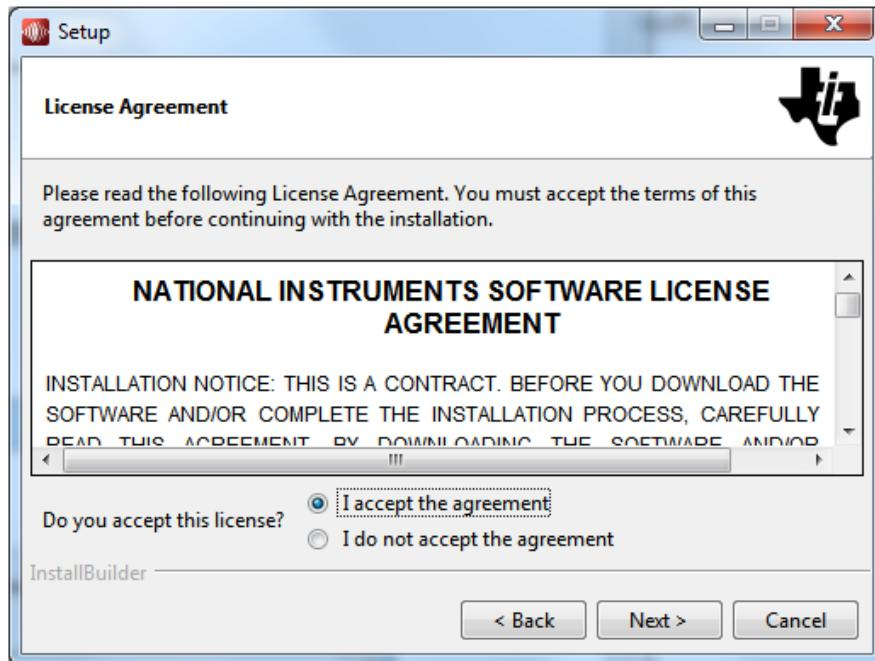

Figure 36. HMC-DAQ GUI Install(NI License Agreement)
3. Read the National Instruments License Agreement and select I accept the agreement followed by the Next button, as in Figure 36.